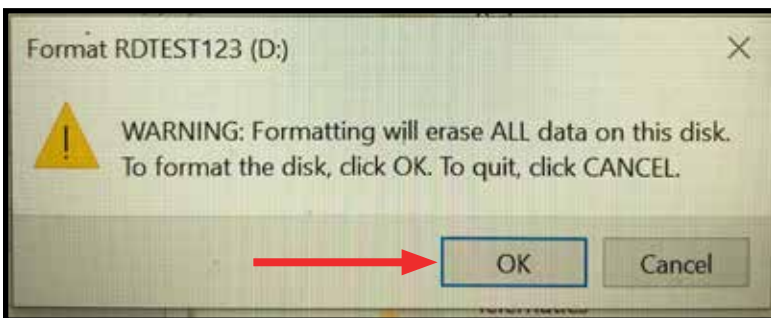

Figure 5
7. Click “OK” to acknowledge that formatting will erase any data currently on the drive (Figure 5).